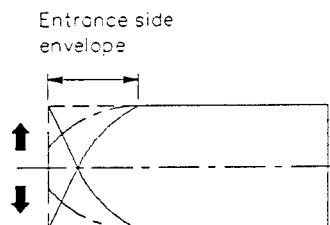

Fig. 5-4-10 Video envelope rising when operation mode is switch from review to play mode
2. Switch the Review mode to the Play mode. When switched to the Play mode, make sure the entrance side envelope comes to an approximate steady state within 3 seconds as shown in Fig. 5-4-10.